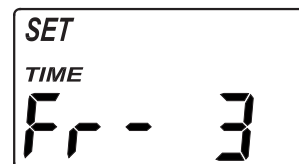

FIG. 40
2. Press the SELECT button twice, so that "SET Fr TIME" appears in the display (See Figure 40).